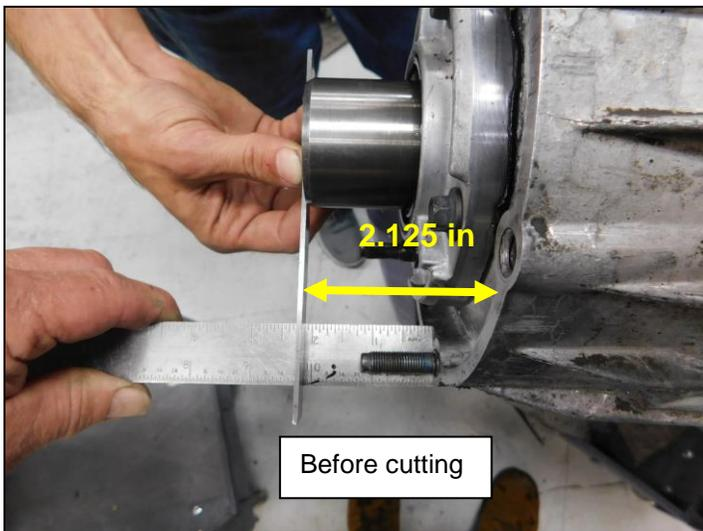

Figure 3
- Measure from the NP241D **Transfer case** flange to the end of the NP241D input shaft (no adapter). It should measure 2.125" **Figure 3** (next page).